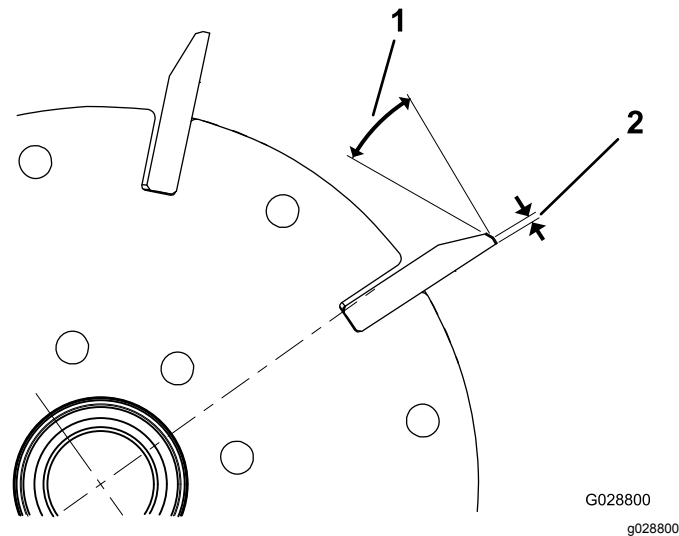

Figure 25
- 1. Apply a 30° relief grind on all reel blades until the land width is 1.3 mm (0.050 inch) wide (Figure 25).